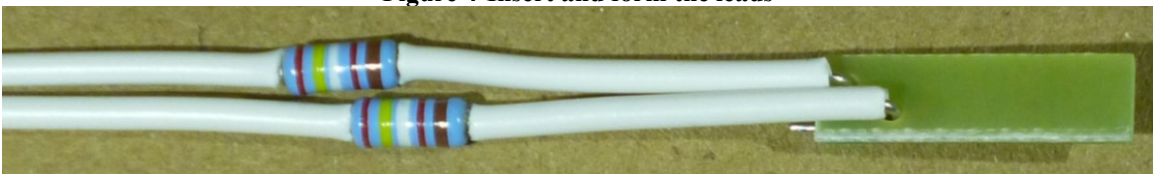

**Figure 3-Place 90-degree bend in one lead of each resistor**
5. Put a 90 degree bend in both resistors, with the bend right up against the insulation, as shown in Figure 3.